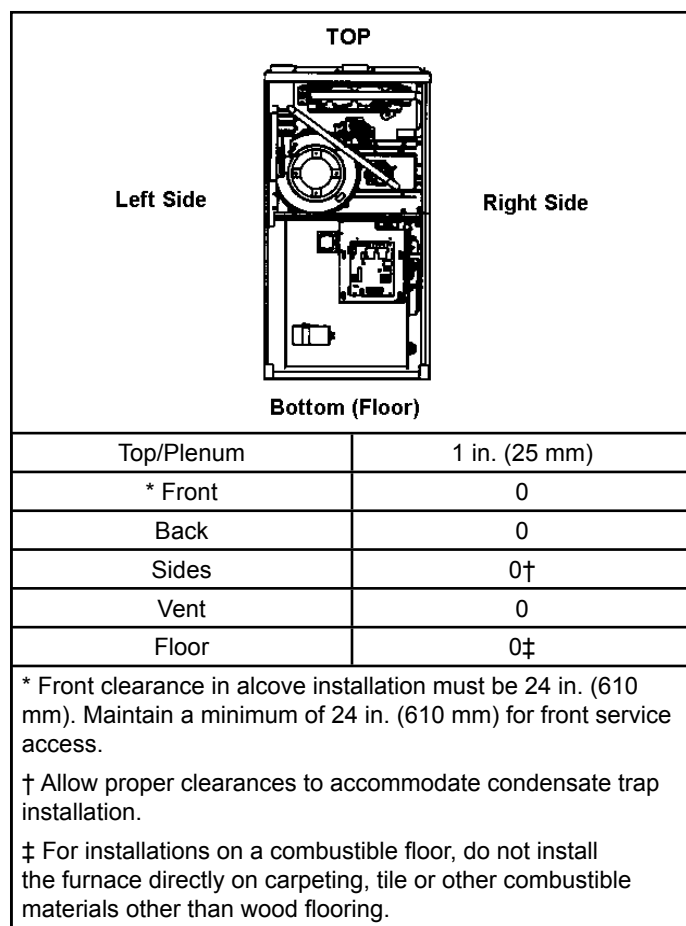
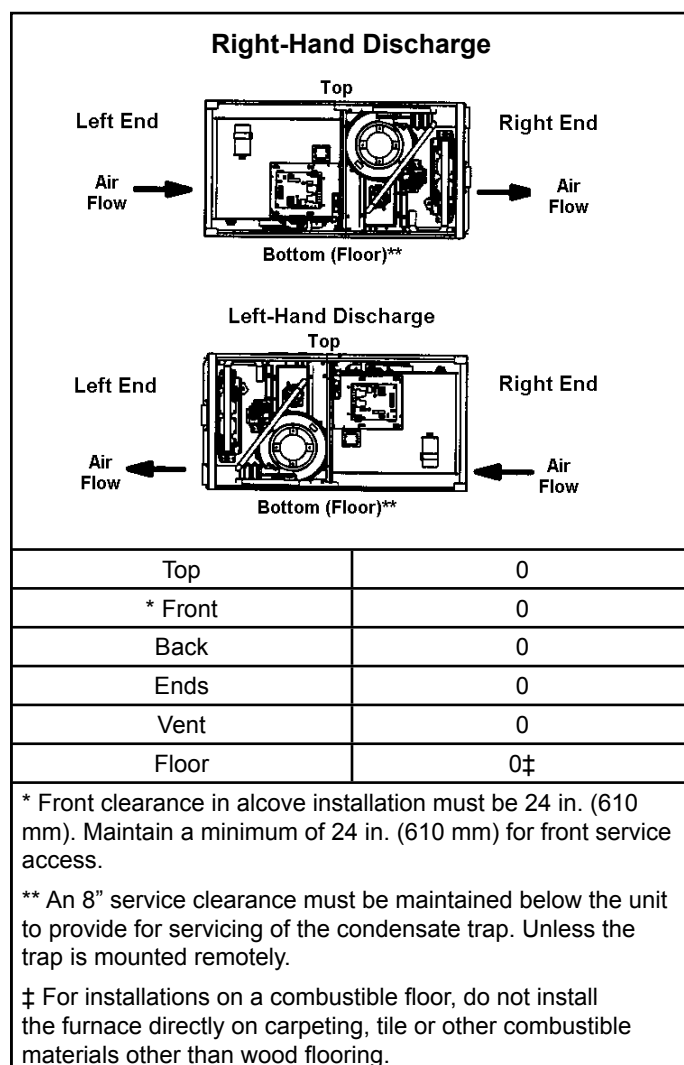

Figure 10. Upflow Application Installation Clearances
Figure 11. Horizontal Application Installation Clearances
The furnace is designed for installation clearances to combustible material as listed on the unit nameplate and in the tables in Figure 10 and Figure 11. Accessibility and service clearances must take precedence over fire protection clearances.
This gas furnace can be installed as shipped in the upflow position. Refer to Figure 10 for clearances.
Allow for clearances to combustible materials as indicated on the unit nameplate. Minimum clearances for closet or alcove installations are shown in Figure 10.
Refer to Figure 11 for clearances in horizontal applications.
12. Select location for unit keeping in mind service and other necessary clearances. See Figure 11.